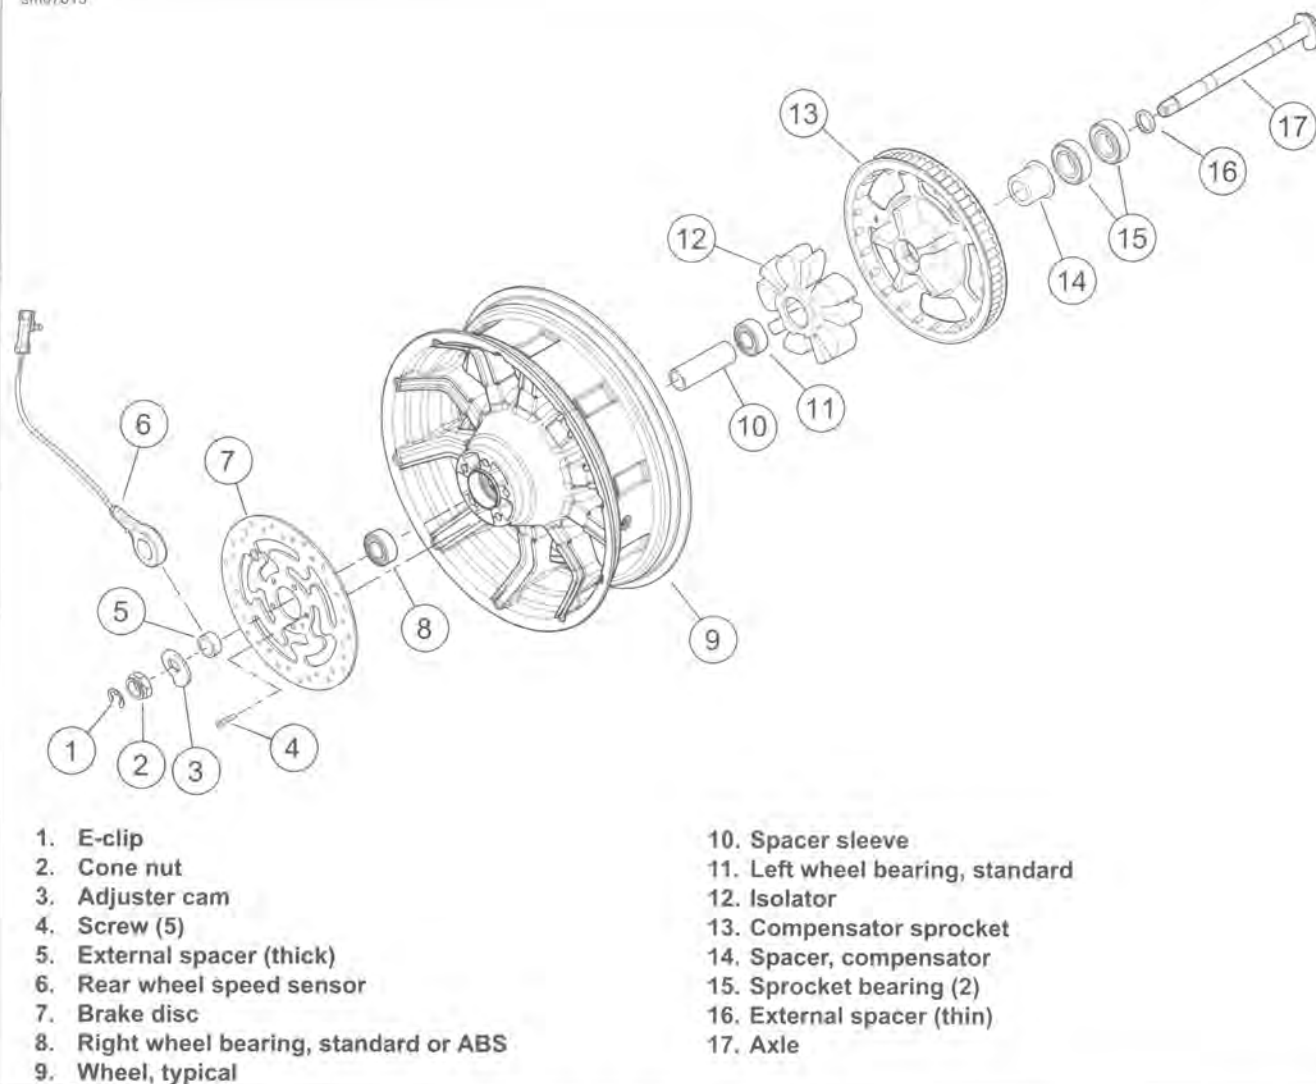

Figure 2-6. Rear Wheel (typical)
10. See Figure 2-6. Remove E-clip (1) from the groove at the end of the axle.